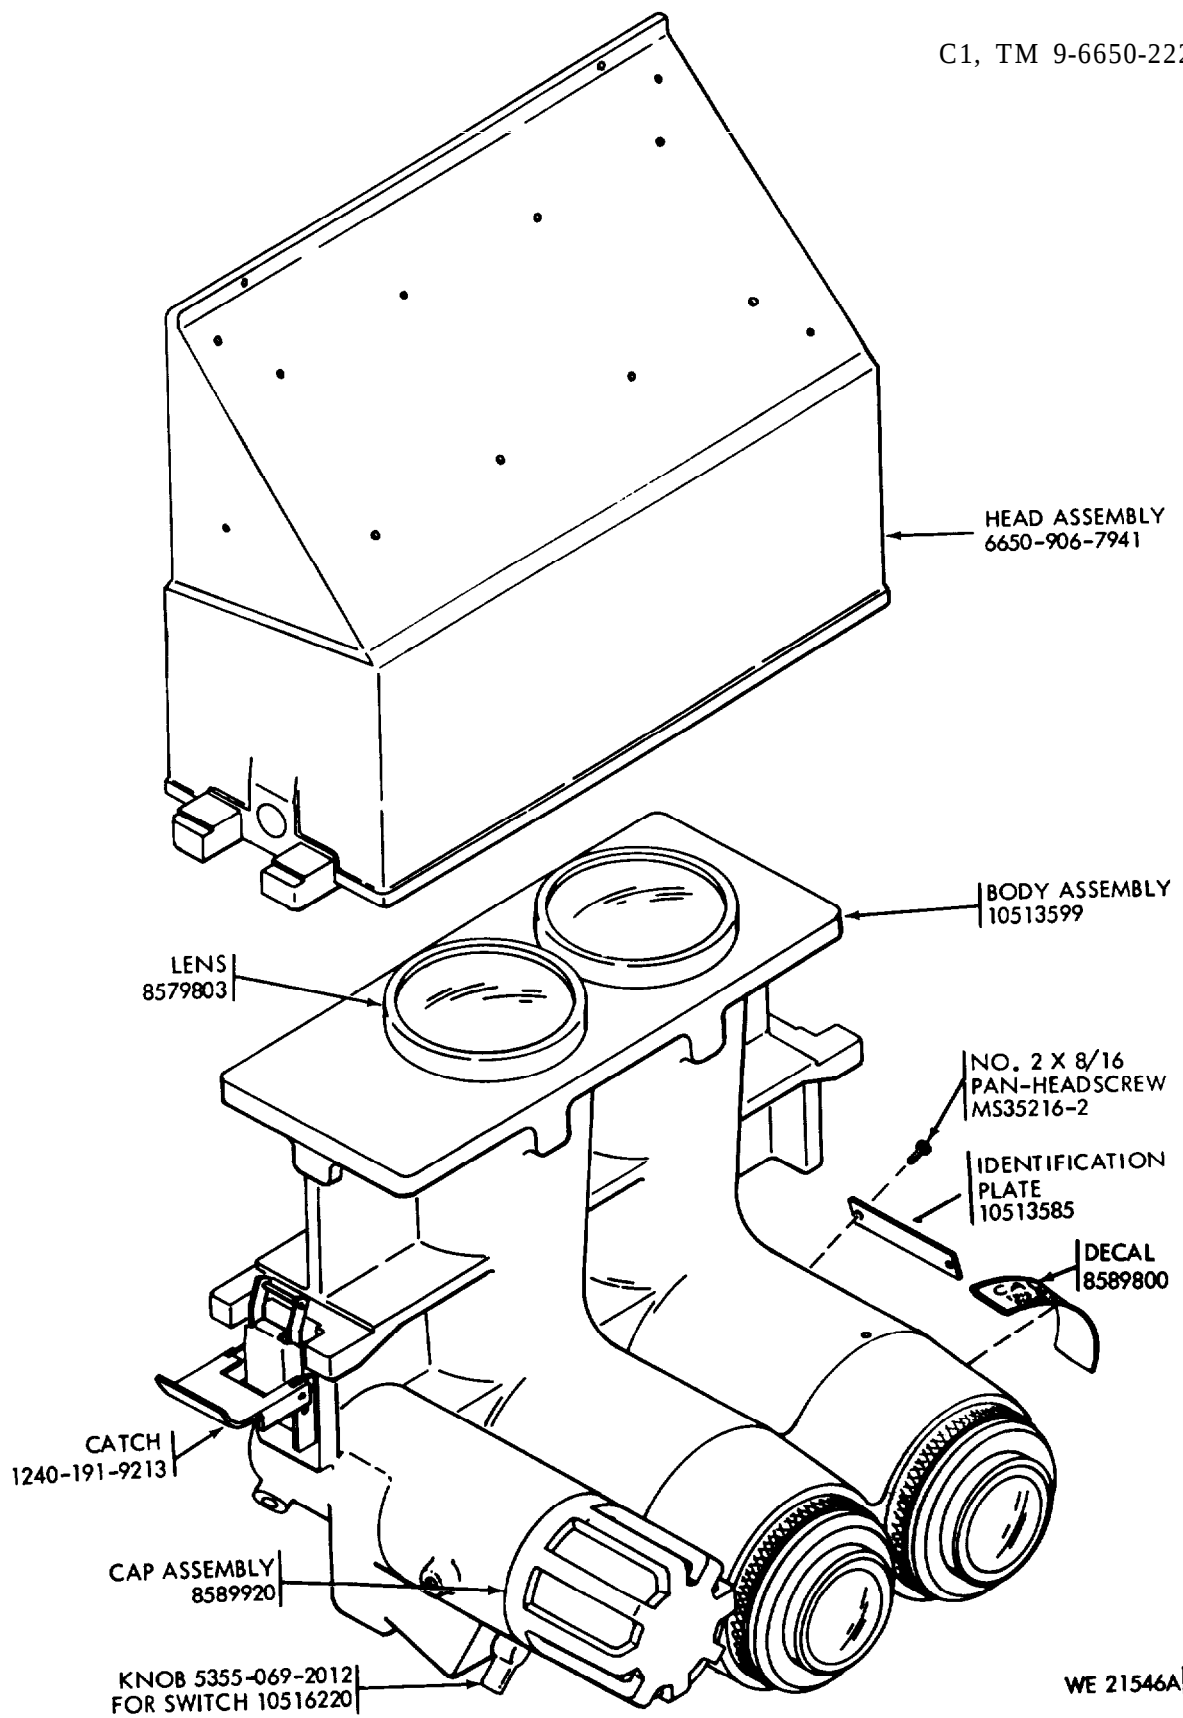

Figure 1-1. Periscope, tank M48, 6650-762-9936.
a. *General.* Periscope M48 (figs. 1-1 and 1-2) is an infrared, unity-power binocular periscope that provides a 41-1/2 degree field-of-view. The periscope is primarily intended for use in conjunction with two infrared headlights as the driver's night viewing system in the M551 vehicle. Operating instructions and a functional description of periscope are provided inutm 9-2350-230-12.
(1) Head assembly 6650-906-7941 contains prism 8599693 (fig. 1-1) which is mounted in the head and sealed against water penetration. The bottom of the head is open but is provided with a gasket for sealing when joined with body assembly 10513599.
(2) Two mounting holes are provided on the head for engaging the plungers of mount assembly 6650-906-7944. Mount assembly is required for assembling head assembly to body assembling 10513599.
(1) Body assembly 10513599 is a nitrogen gas filled, sealed unit that receives the reflected line of sight from head assembly 6650-906-7941. In-addition, body assembly 10513599 also houses electrical and electronic components for control of the infrared converter system.
(2) Two catches (fig. 1-1) engage corresponding strikes on mount assembly when mounting body assembly 10513599. An identification plate for periscope M48 is mounted on body assembly 10513599 and contains the serial number of the unit.
(3) Valve assembly 8201751 is located on the side of body assembly 10513599 and is used for purging and charging the unit with nitrogen gas.
assembly 8589920 (fig. 1-1). This arrangement permits the use of externally supplied 24-volt dc, or 1.5-volt dc supplied by the dry battery. Switch 5930-925-3631 (fig. 1-1) on body assembly 10513-599 is provided to control the mode of operation used. Schematic representation of the two modes of operation are illustrated in figure 1-5.